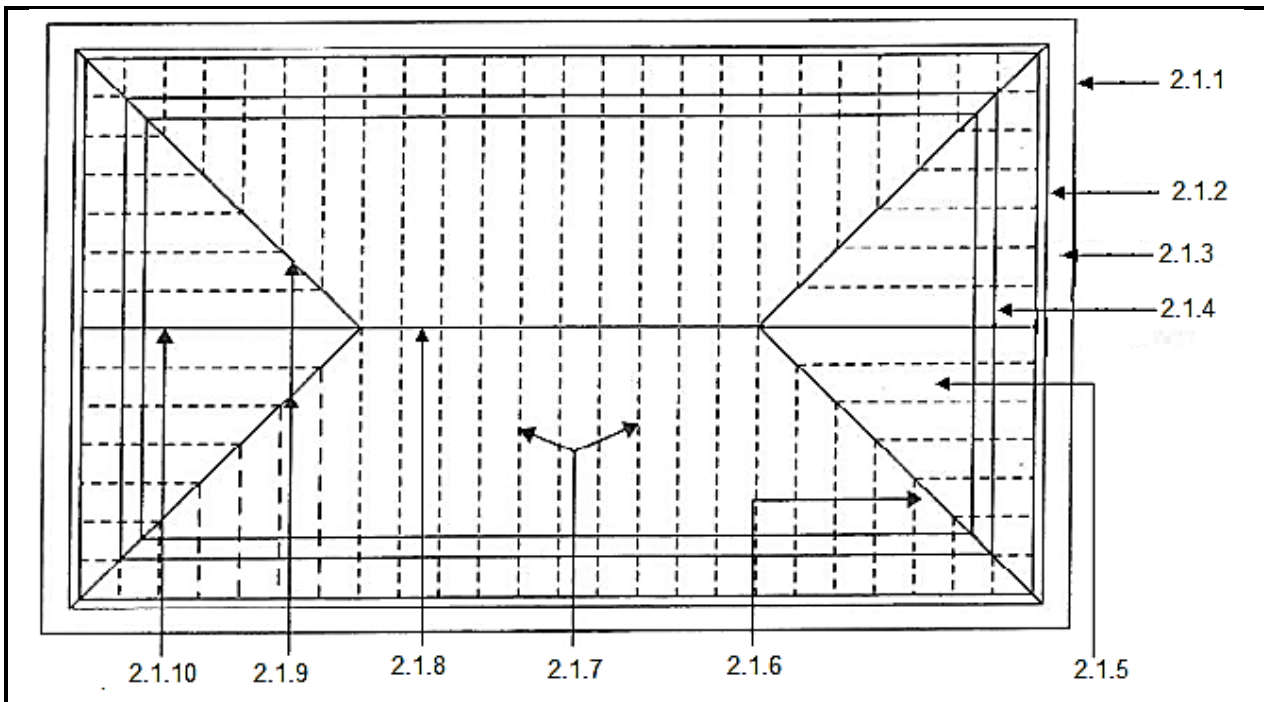

FIGURE 1
- 2.1 FIGURE 1, DIAGRAM SHEET 1 (attached), shows the plan view of a rectangular roof on a building with hip ends.